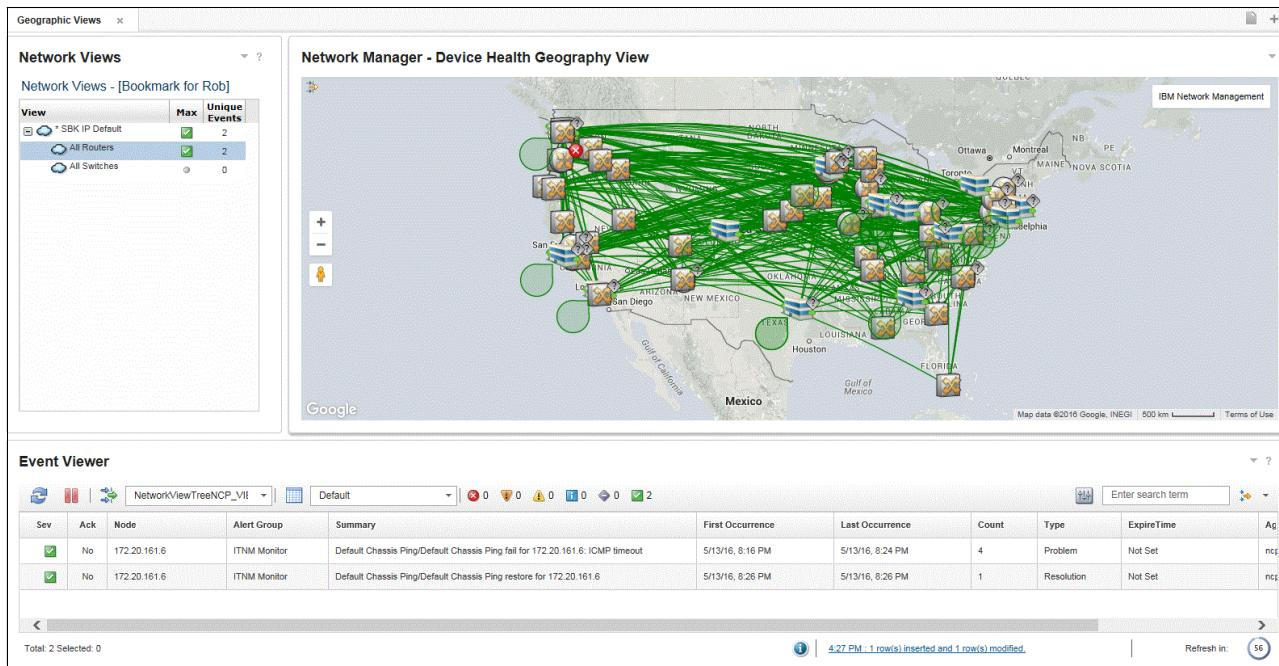

Figure 3-5 Custom Geographic Views page
Click a view to change the context of the geographical map and all events for devices in that view. Click a device or Building site icon to see events for that device or site, only (see Figure 3-5 on page 73).
5. Click **Network Manager Widgets** and drag the Dashboard Network Views onto the workspace and expand it (as shown in Figure 3-5 on page 73) or to your own design. Then, by using the menu at the top left, select **Home** to return to the widget Home level.